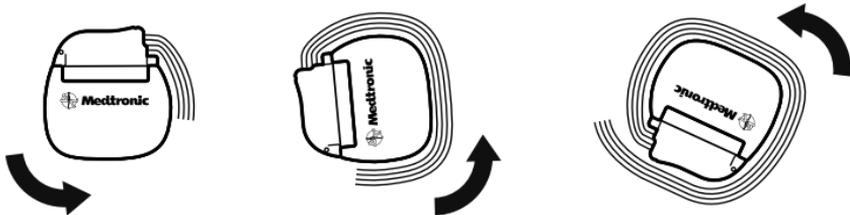

Figure 3. Rotate counterclockwise to coil excess lead or extension length.
1. With the Medtronic logo facing outward, away from muscle tissue, rotate the neurostimulator counterclockwise to coil the excess lead or extension (Figure 3).